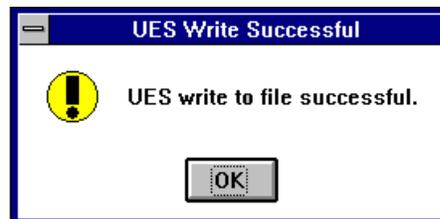

Figure 3-21. UES Write Successful Dialog Box
3. Type in the signature using only hexadecimal characters (0-9 and A-F). The Digit edit position field helps you while typing in the signature. Click **Update**. The UES Write Successful dialog box appears (Figure 3-21) telling you the signature was saved into the .jed file. Remember, the signature is only imbedded on the device **after** you perform a download.